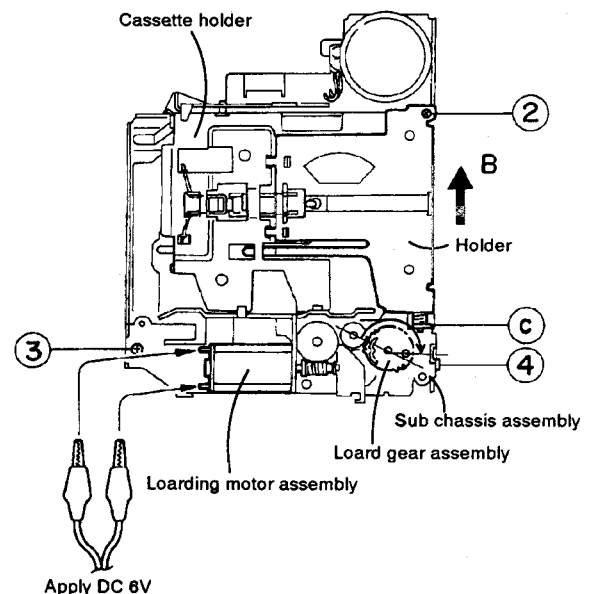

Fig. 2-13
3. Apply DC 6 V to the lead wire of the loading motor assembly and turn the load gear assembly to the position shown in Fig. 2-13.
4. Remove the screw ② securing the cassette holder and holder arm assembly. (Fig. 2-13)
5. Shift the cassette holder and the holder arm assembly in the direction shown by the arrow B and remove them from the interlocking section ③ of the sub chassis assembly. (Fig. 2-13)
4. Remove the two screws ③ and ④ securing the sub chassis assembly. (Fig. 2-13)